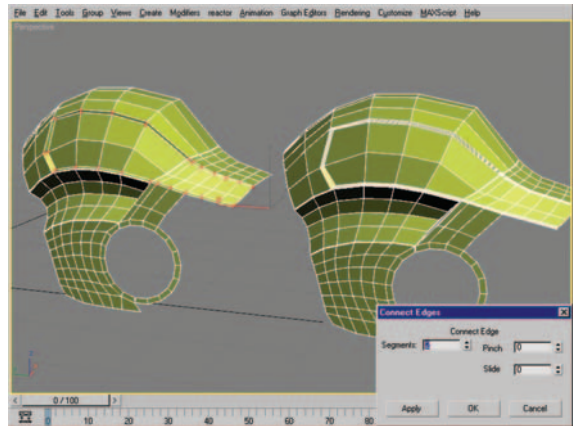

Figure 8.49 Edge selection and resulting mesh with two new rows of edges added using Connect.
50. In the perspective viewport, select the edges shown in Figure 8.49 (left) and use the Connect settings box with Segments set to 2 to create two new rows of edges as seen in Figure 8.49 (right). The two additional rows of edges will create a sharper detail when TurboSmooth is turned on.